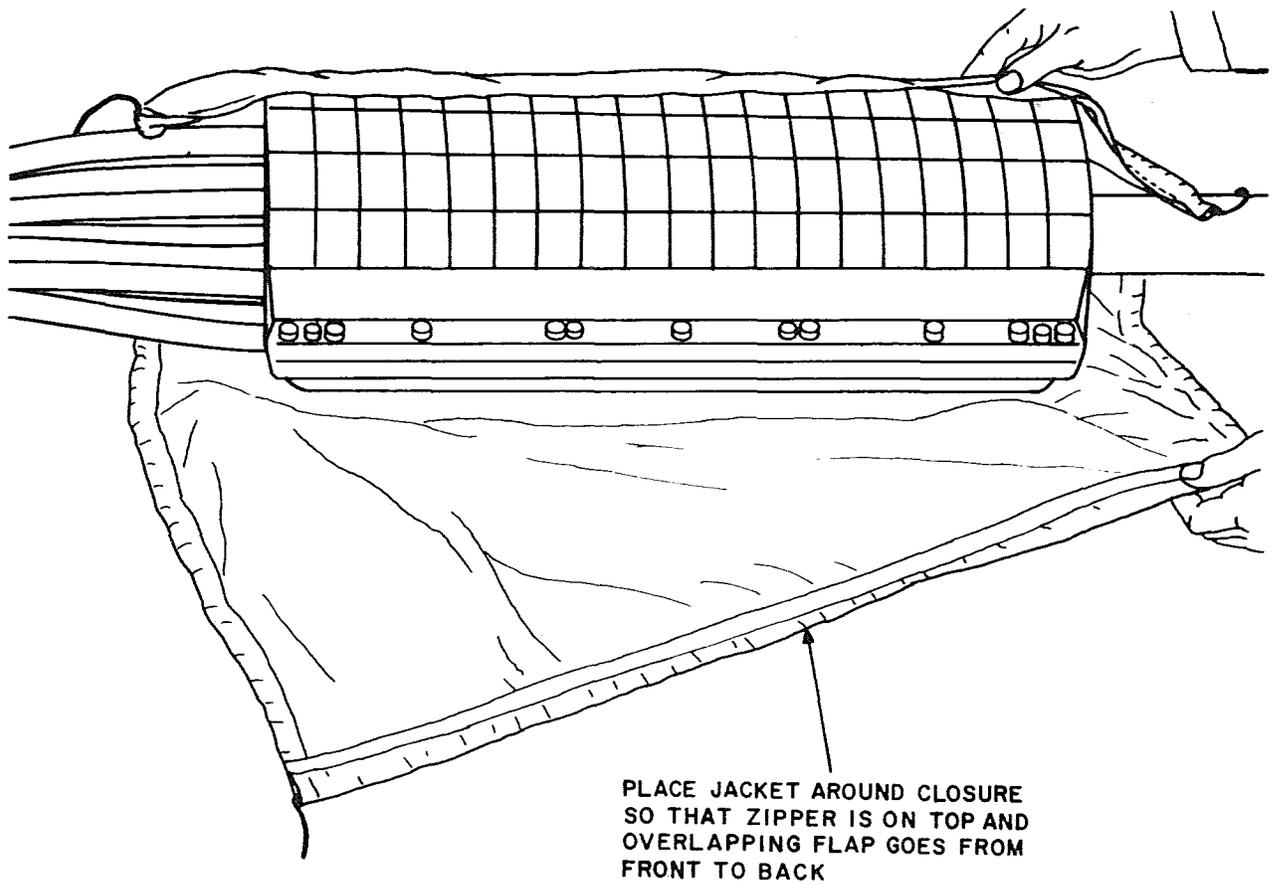

Fig. 2—Placing Jacket Around Closure—Horizontal Splice
3.01 Place the jacket around the closure as shown in Fig. 2; then using the zipper, close the jacket around the closure.